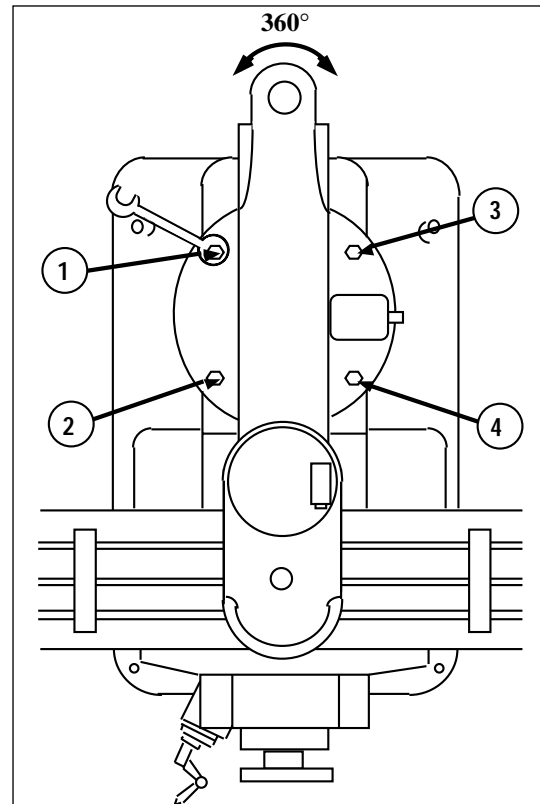

Figure 1-12: Top View of EZTRAK, showing the 4 bolts to be loosened to swivel the turret.
The top of the EZTRAK head can be swiveled by loosening the 3 locking nuts (A) shown in Figure 1-12 and using the following procedure.